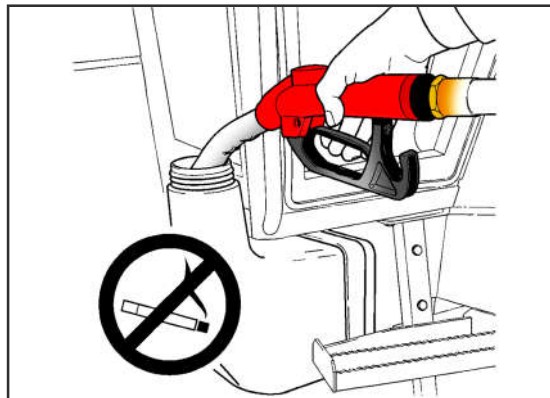

Fig. 8
- DO NOT smoke while refilling the tractor. Keep away from flames (Fig. 8).